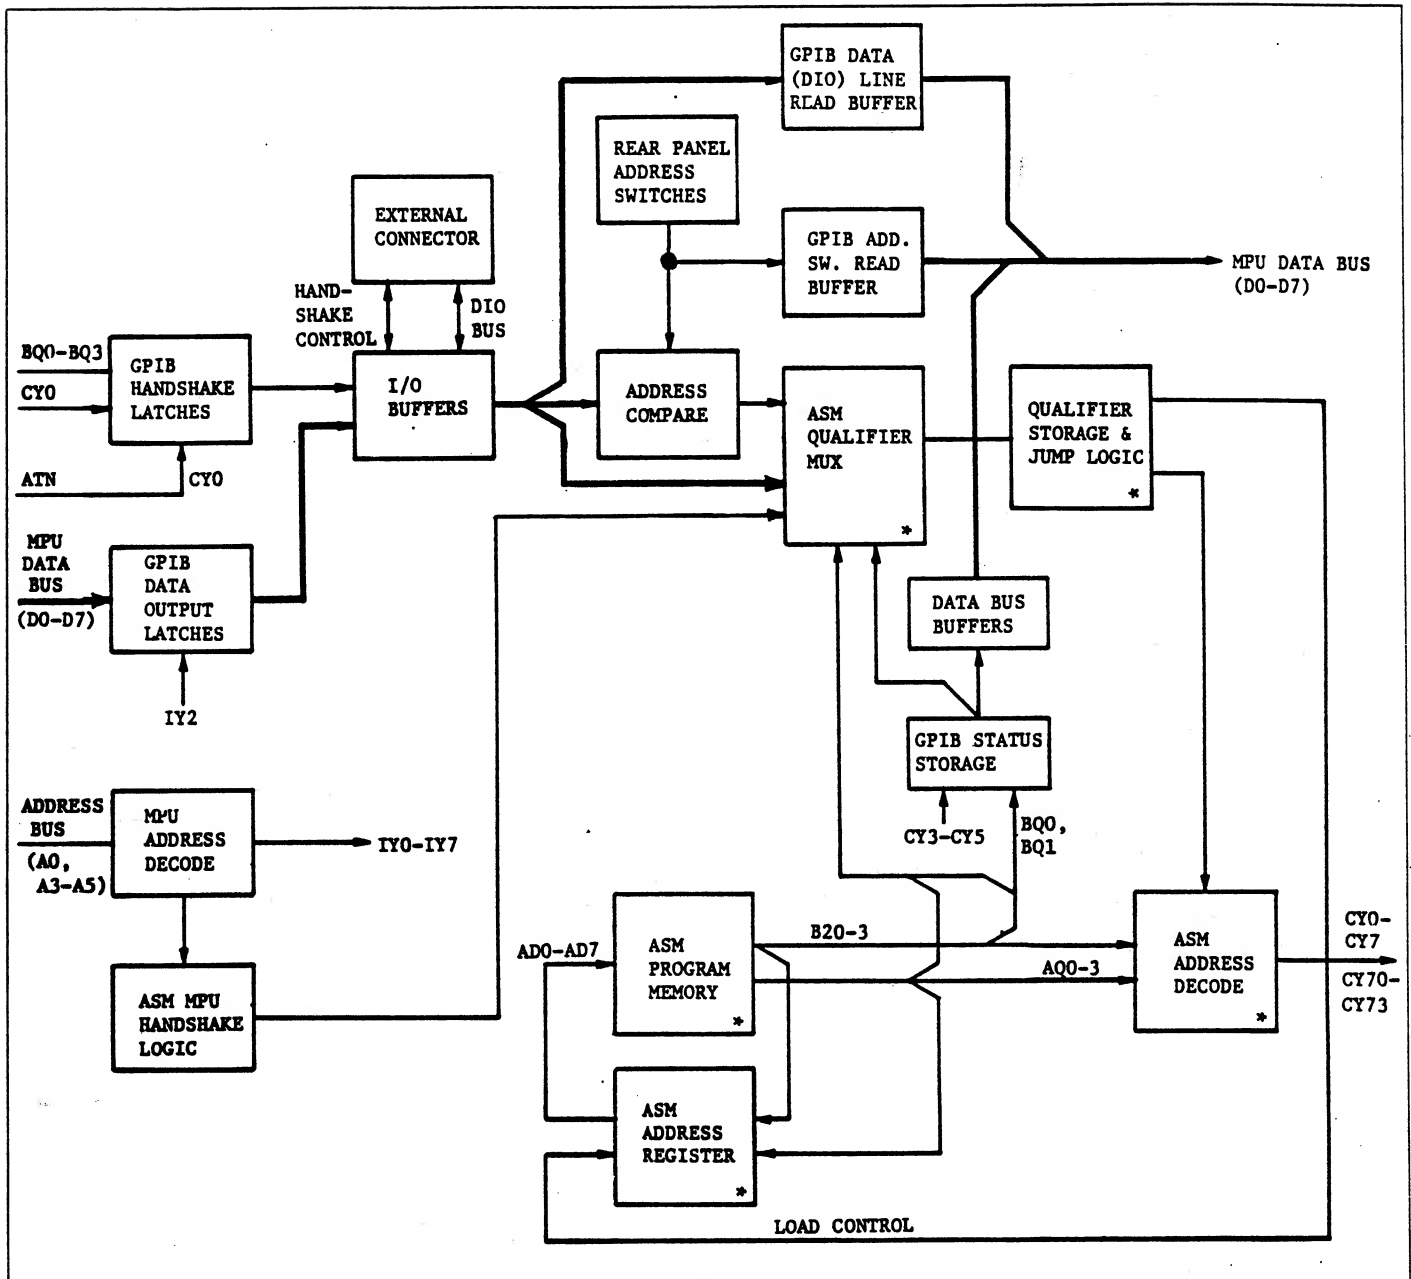

Figure 5.36 - GPIB IEEE-488 Interface Board
5.5.3.1 The GPIB (Figure 5.36) allows the Model 6000 to operate on the IEEE 488 bus with controllers and other instruments. The interface is controlled by its own algorithmic state machine (ASM) which handles all interface commands and allows the GPIB to operate independent of microprocessor control.